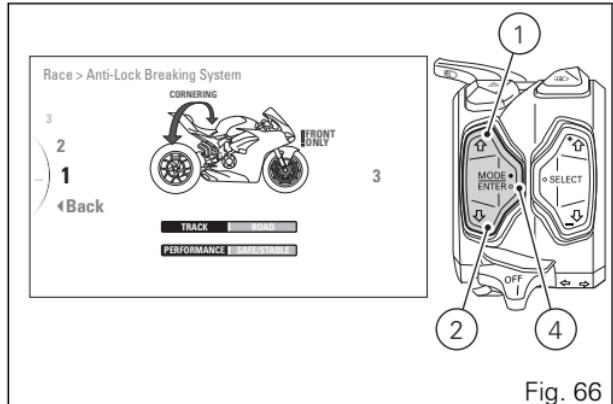
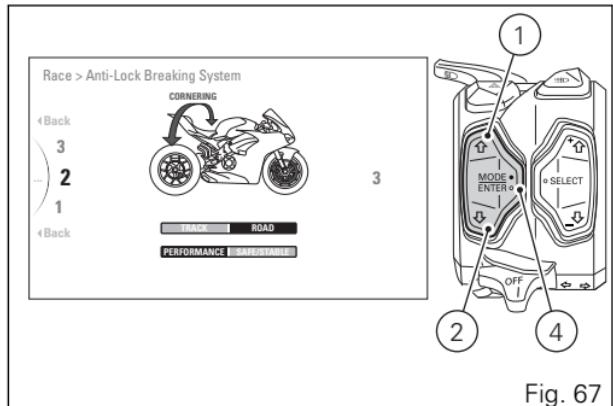

Fig. 66
Fig. 67
With buttons (1) and (2) select the new level of intervention desired. For each highlighted level, the corresponding paired value in the central table (highlighted with a black background) will be displayed. Moreover, the braking system intervention level will be indicated in Light Blue: “**FRONT ONLY!**” (Fig. 66) for front brake active only, “**CORNERING**” (Fig. 67) for Cornering function active.